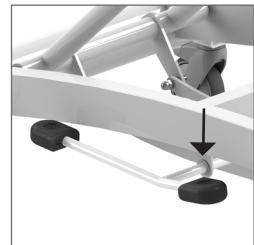

Figure 4. Moving downwards.
- The shower trolley moves downwards as a result of pushing the short part of the foot pedal downwards (See figure 4).